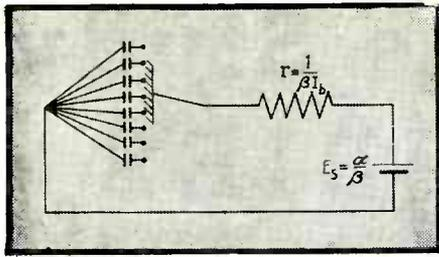

FIG. 7—Equivalent circuit of a dark mosaic undergoing scanning
The solution in Eq. (3) is an exact equivalent of a simple charge of capacitors by a commutating brush in the arrangement shown in Fig. 7. The brush, covering a number of capacitors of a total capacitance  $C$  and commutating  $nNC$  farads per second, charges them through a resistance  $1/\beta I_b$  from a battery of  $\alpha/\beta$  volts.
Fig. 7 (at right)—Examples of pulse patterns obtained in time-axis recording. A and B represent a normal breathing amplitude record with its corresponding time-axis record. C is an artificial amplitude signal, and D, E and F are respectively its time-axis record, the first time derivative and the second time derivative